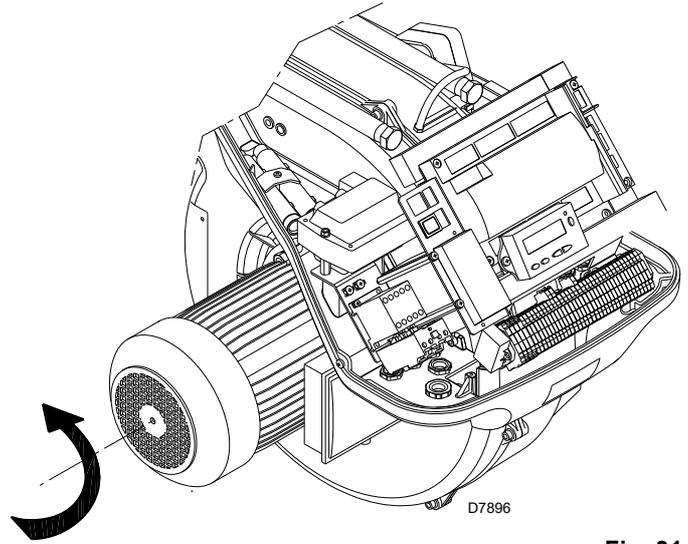

Fig. 31
Close the thermostats/pressure switches and turn the switch of Fig. 31 to position "1".
As soon as the burner starts up, go in front of the cooling fan of the fan motor and check it is rotating anticlockwise. See Fig. 31.
- place the switch of Fig. 31 in position "0" and wait for the control box to carry out the switch-off phase;
The burner is in the heat request waiting mode, or the selector “0-1” (Fig. 31 at page 36) is in the “0” position.